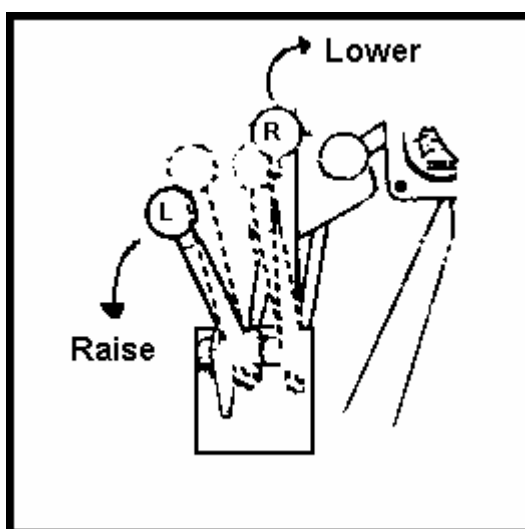

Figure 052-227-1200-6
- (1) Adjust the suspension control lever to the UNSPRUNG position.
- (2) Adjust the CB/GS control lever to the GS position.
- b. Adjust the cutting edge. To tilt the right cutting edge down (left side high), pull the left-suspension control lever back, and push the right-suspension control lever forward. Apply the opposite motions to tilt the left cutting edge down (right side high) (Figure 052-227-1200-6).